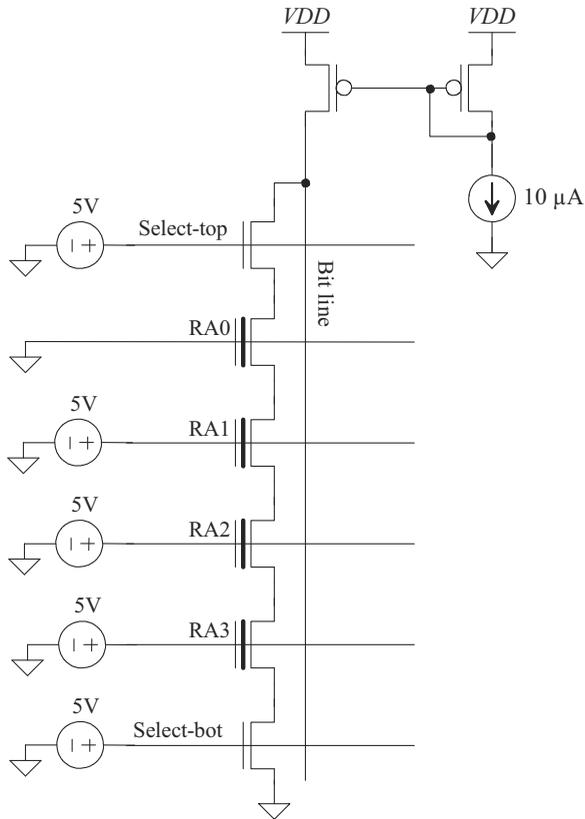

Figure 16.75 Reading the contents of RA0 in a NAND Flash cell.
- 16.19** If the I_{erased} of a NAND Flash memory cell is $20\ \mu\text{A}$ and the I_{prog} is $2\ \mu\text{A}$, explain what the bit line voltage will do when reading out the cell in the following configuration, Fig. 16.75. Will the bit line go all the way to V_{DD} ? All the way to ground? Explain. If the bit line capacitance is $200\ \text{fF}$, estimate the length of time it will take the data on the bit line to settle before it can be read out. Assume that the V_{DD} is $5\ \text{V}$ and the bit line is equilibrated to $2.5\ \text{V}$ prior to sensing.